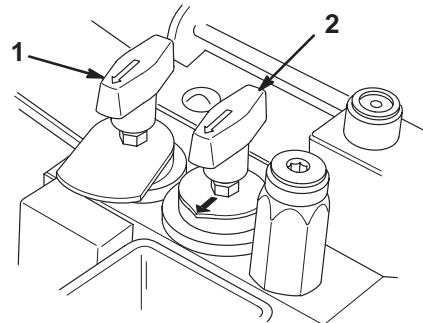

Figure 61
3. Rotate the backlap knob, on the valve block (Fig. 61), clockwise to the backlap position. Rotate the reel speed knob (Fig. 61) to position 1.